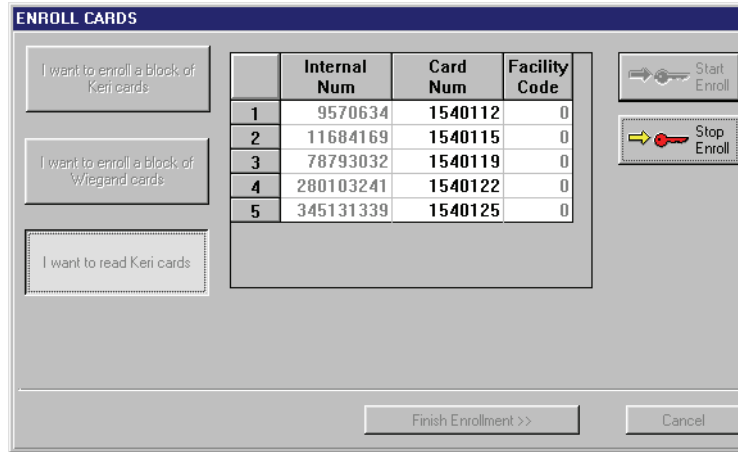

Figure 4-13: Enroll Cards Window for Presenting to a Reader – Cards Presented
- Continue presenting cards until all have been enrolled. When completed, the card enrollment window should look similar to Figure 4-13 on page 11 of this section.